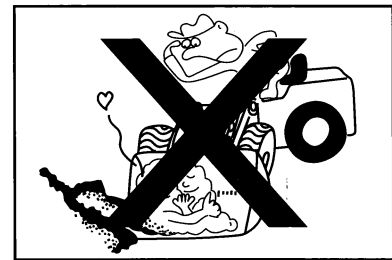

Figure1-58
- When the road condition is bad, operate the machine carefully, and avoid of losing the stability. (Figure 1-58)